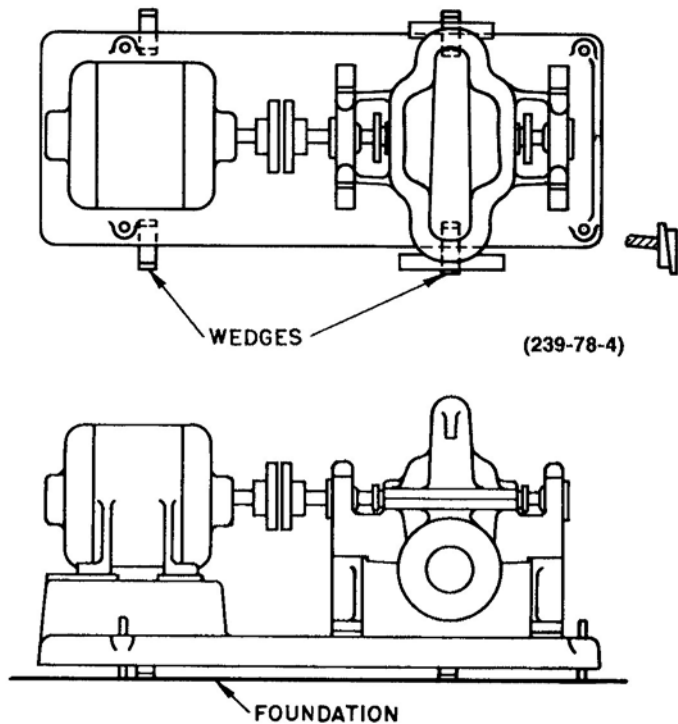

Figure 3:
- a) Put the pumping unit in place on the wedges. The wedges should be placed at four points, two below the approximate center of the pump and two below the approximate center of the driver (See Figure 3: on page 12). Some installations may require additional wedges near the middle of the bedplate.